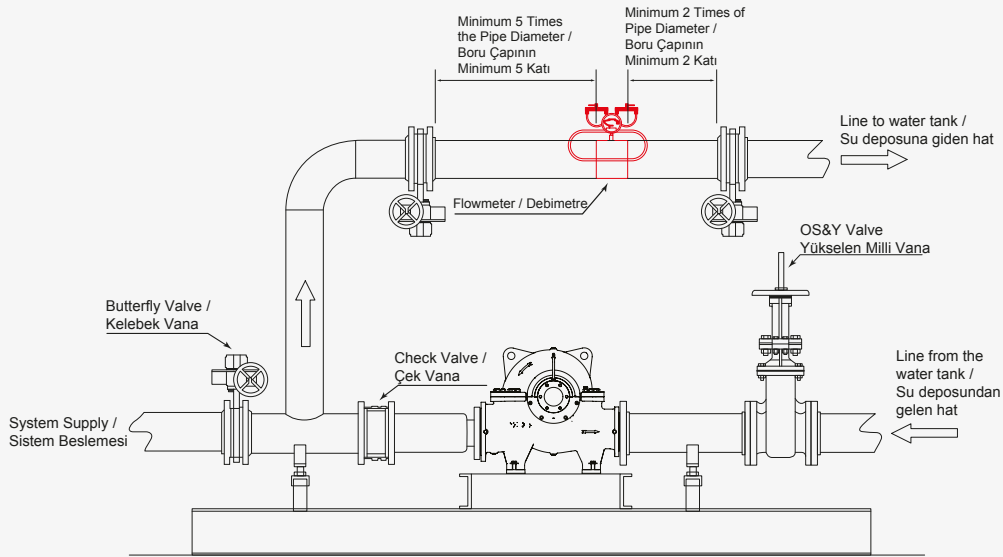

Figure 4: Flowmeter Connection Diagram
- The flow meter diameter should be selected according to the "Table 1" according to the pump flow. In addition, the flow meter should be connected to the pump discharge line between the butterfly valve and the check valve as in "Figure 4" in NFPA 20.